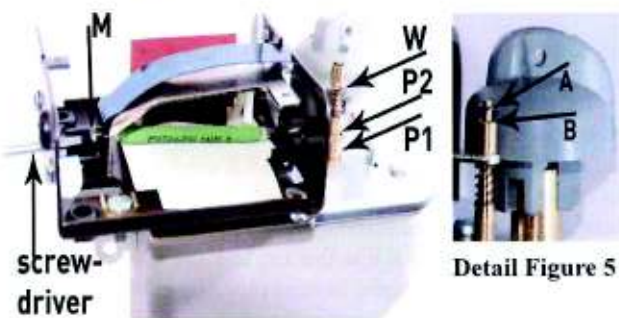

Figure 5
Fig. 5 a screwdriver is used to turn screw (M) to adjust the setting (W) between the operating arm (P2) and the thermostat pin (P1). In '**Detail Fig 5**' for the basic adjustment it is necessary for a distance between (A) and (B) of a minimum of 1.5 mm and maximum of 2.0 mm. Turn the screw (M) clockwise to reduce the flow adjustment delay and anticlockwise to increase flow adjustment delay.